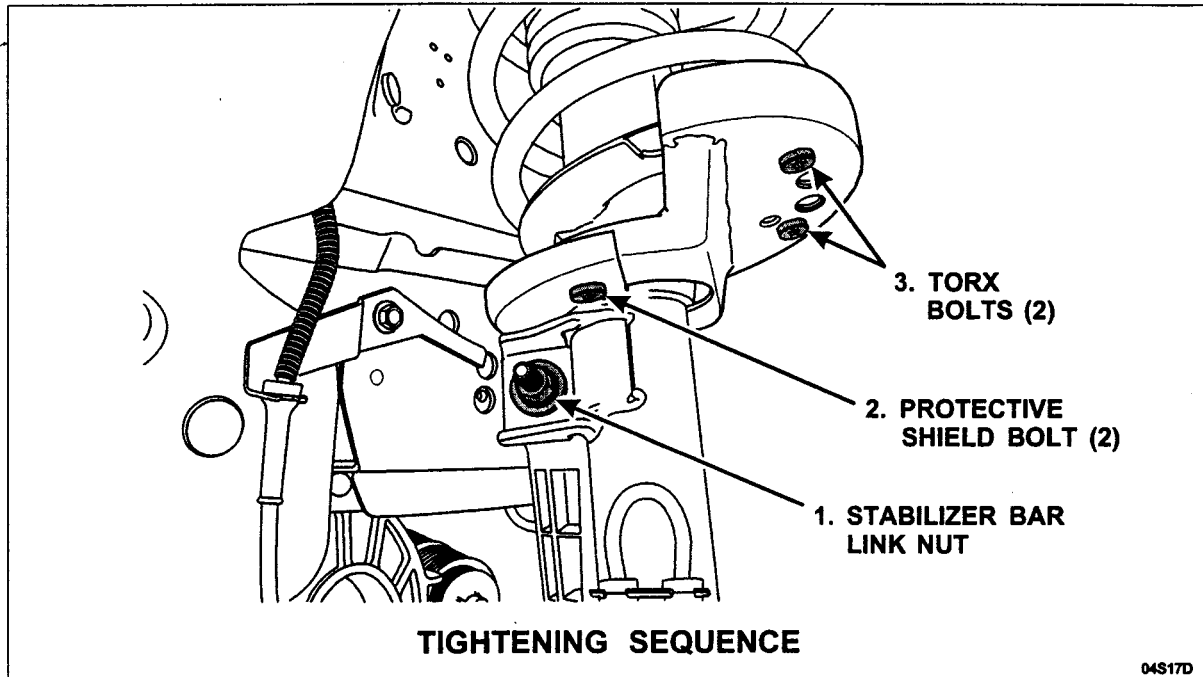

FIGURE 4
6. Tighten the fasteners in the following sequence (see Figure 4):